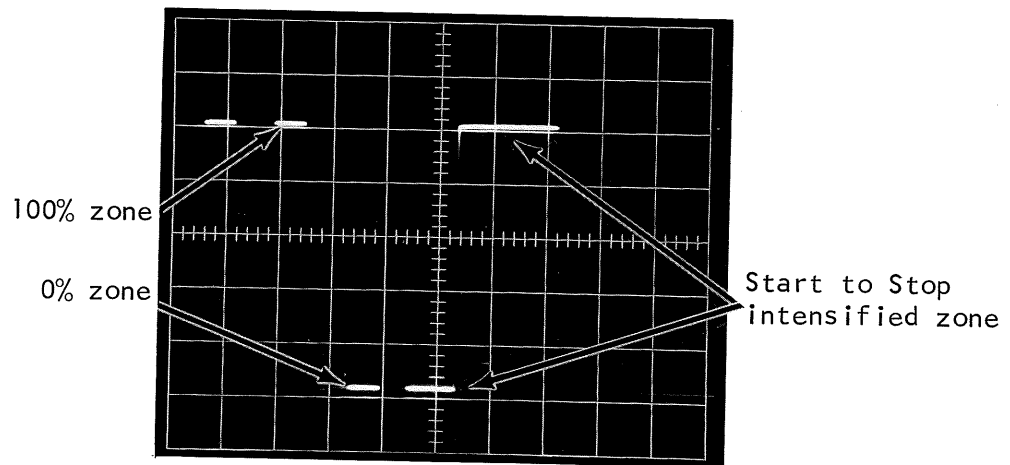

Figure 3-78
3. On the 6R1A, set the TIMING START and TIMING STOP controls to MANUAL and set the START and STOP to FIRST + SLOPE. Set the MODE to TIME STOP (-) START. Set the MANUAL controls so the intensified zone starts before the first positive (+) slope and so the intensified zone stops after the first positive (+) slope, See Figure 3-78.